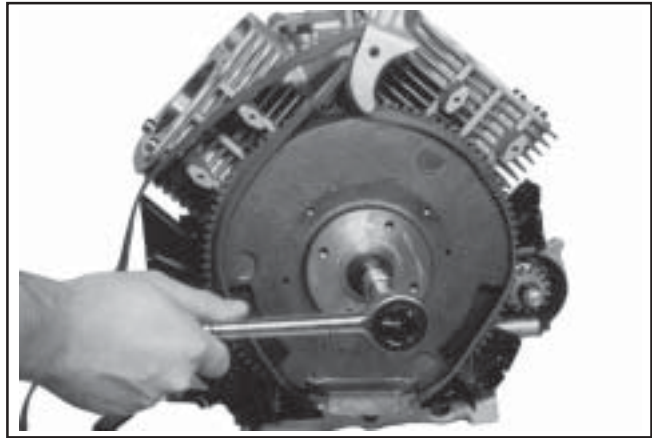

Figure 9-62. Removing Flywheel Fastener Using Strap Wrench.
1. Use a flywheel strap wrench or holding tool (see Section 2) to hold the flywheel and loosen the hex flange screw securing the flywheel to the crankshaft. See Figure 9-62.